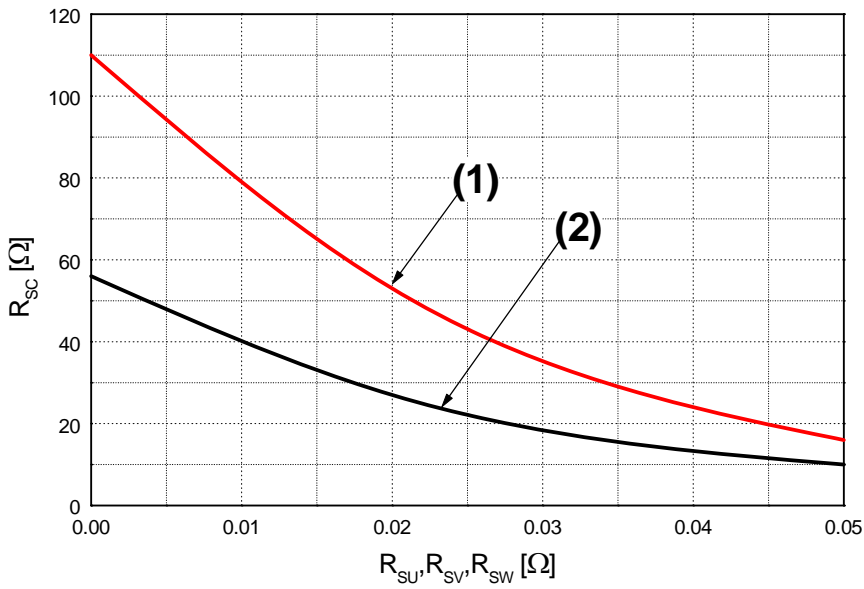

Fig. 7. R_{sc} Variation by change of Shunt Resistors (R_{SU}, R_{SV}, R_{SW}) for Short-Circuit Protection
- Short-circuit current protection is functioning only at the low-sides. It would be recommended that the value of the external sensing resistor (R_{SC}) should be selected around 56 Ω in order to make the SC trip-level of about 45 A at the shunt resistors (R_{SU}, R_{SV}, R_{SW}) of 0 Ω. For the detailed information about the relationship between the external sensing resistor (R_{SC}) and the shunt resistors (R_{SU}, R_{SV}, R_{SW}), please see Fig. 7.